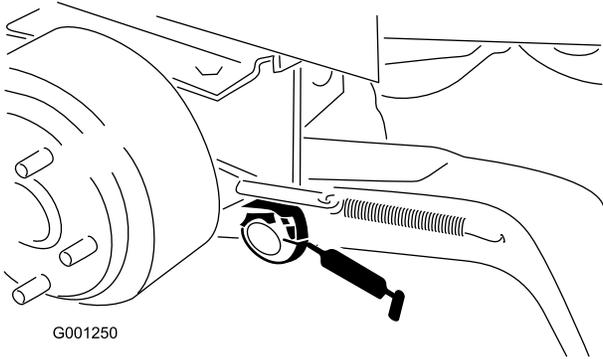

Figure 38
- Lift arm pivot bushings (Figure 38)